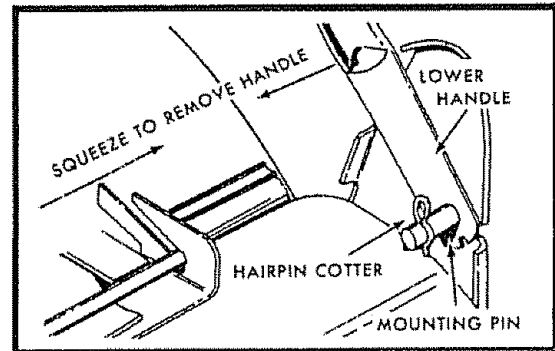

FIG. 18
- To fold, squeeze the bottom ends of the lower handle toward each other until the lower handle clears the handle bracket, then move handle forward (See Fig. 18).